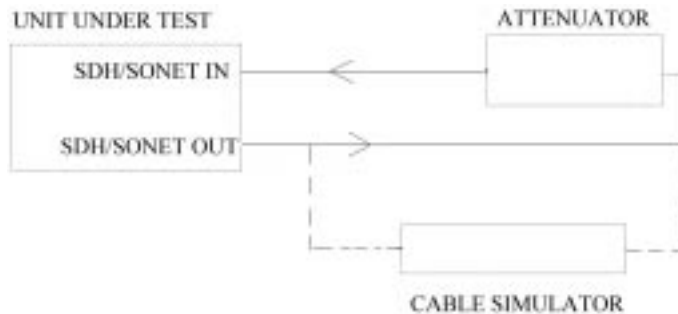

Figure 3-5 Receiver Monitor Input
- 2 Connect the equipment as shown in Figure 3-5.